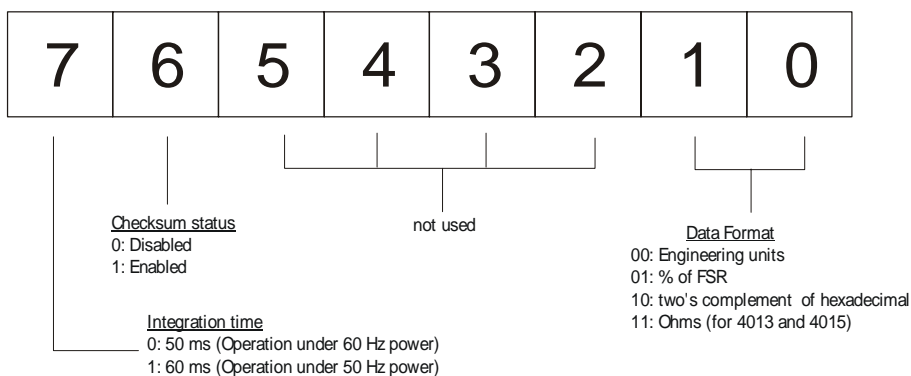

Figure 5-1 *Data format for FF (8-bit parameter)*
**FF** is a hexadecimal number that equals the 8-bit parameter representing the data format, checksum status and integration time. The layout of the 8-bit parameter is shown in Figure 5-1. Bits 2 through 5 are not used and are set to 0.